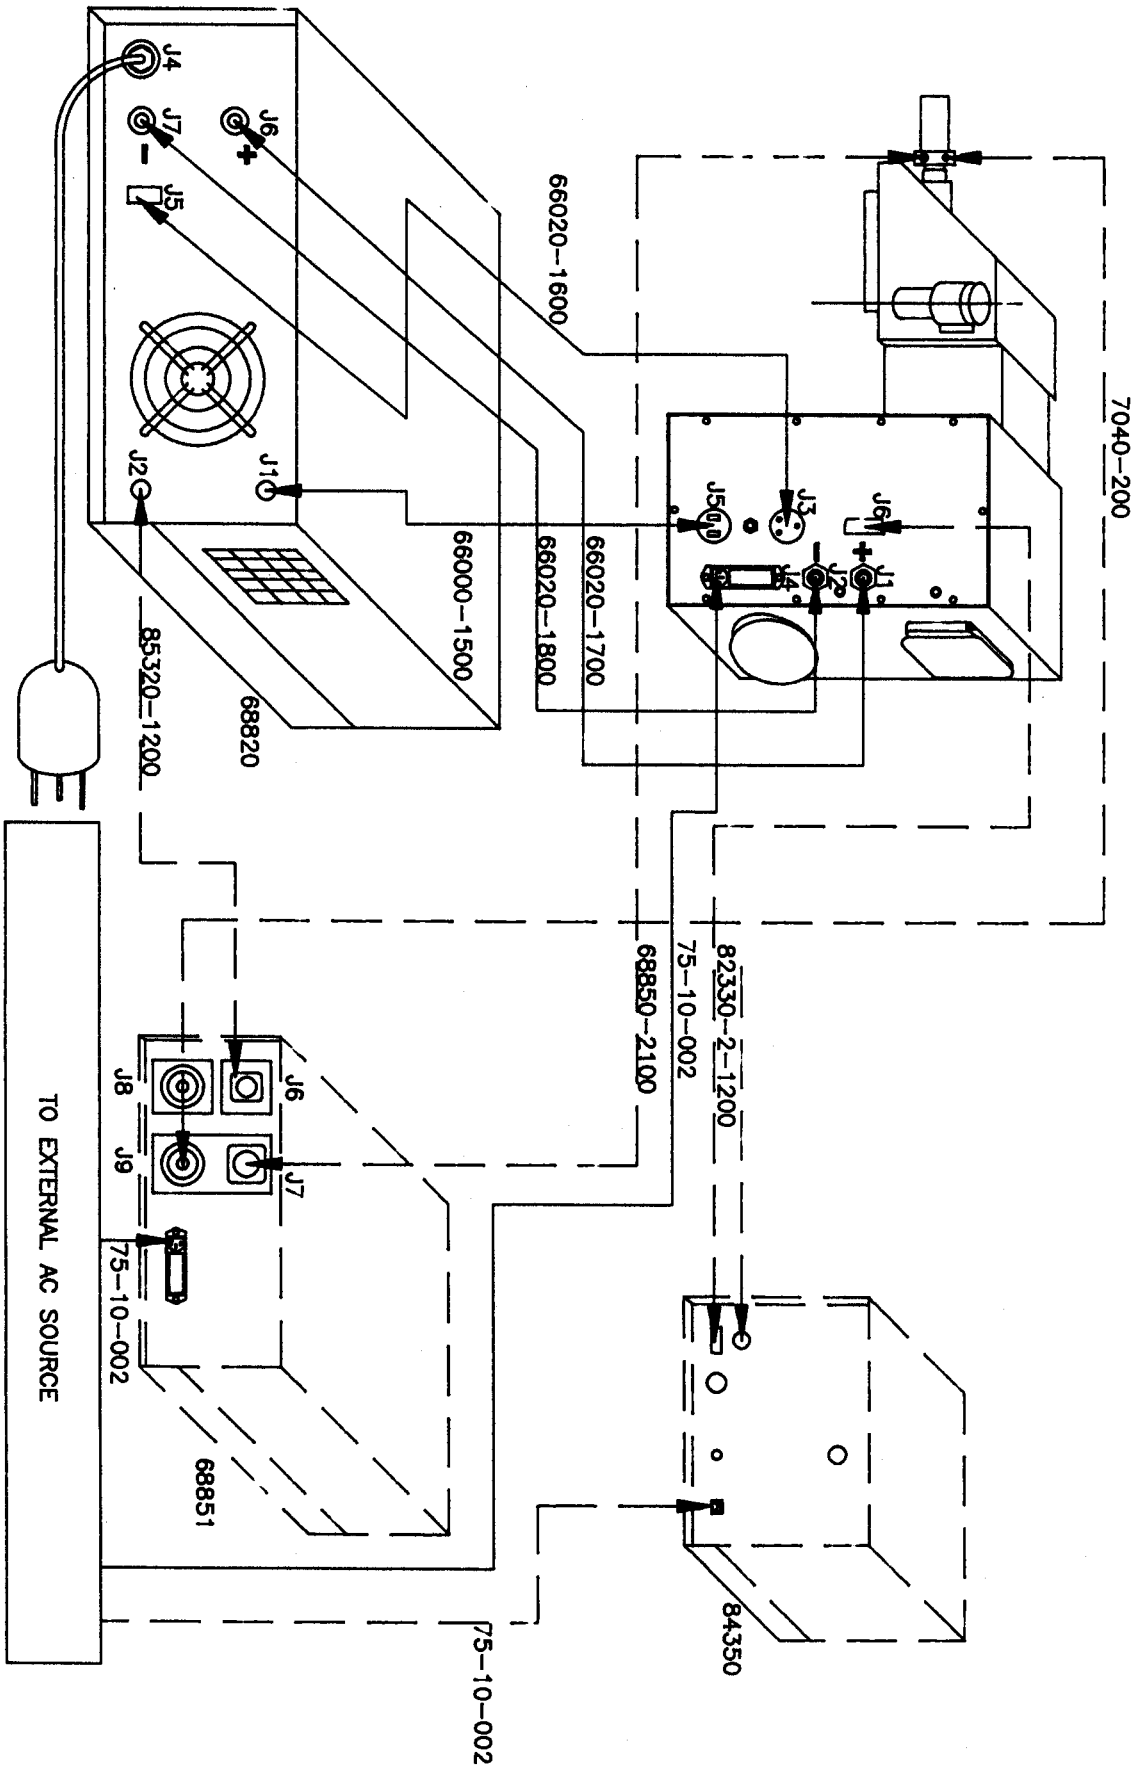

Fig.2.SOLAR SIMULATOR CABLING
- 1) Locate, unpack and identify all electrical cables. Refer to figure 2 on the next page for visual procedure for connecting the solar simulator and the optional digital timer and light intensity controllers.